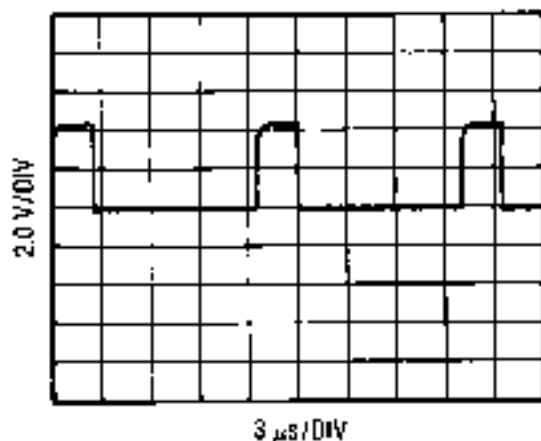

Figure 8-17. 80 kHz Reference, A2A5TP2
8. Connect the oscilloscope to A2A5TP2, 80 kHz REF. The waveform should be as shown in Figure 8-17.